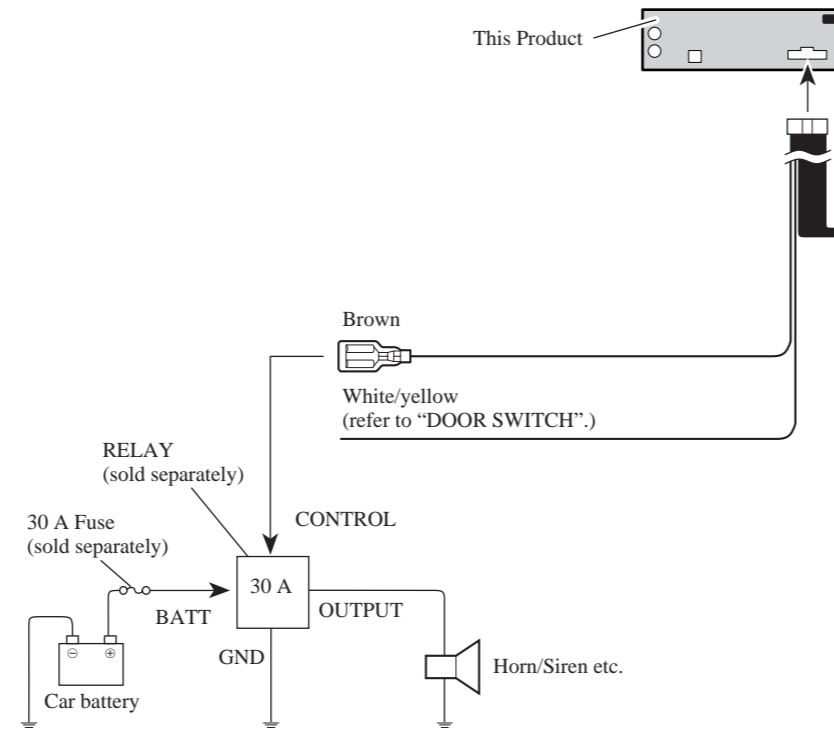

Fig. 6
- **Brown (ALARM OUTPUT)** (Fig. 6)